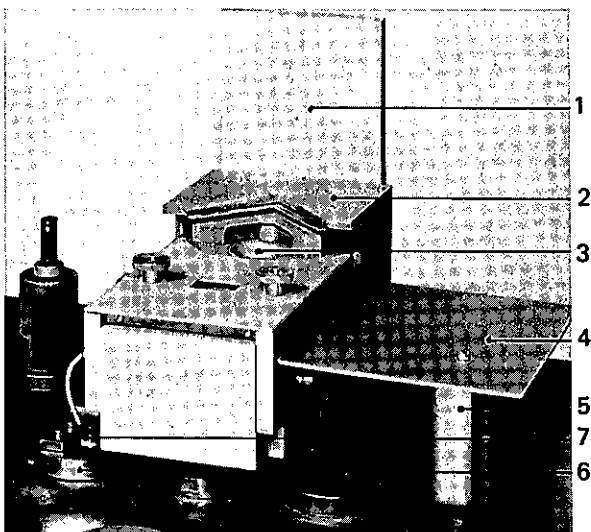

Fig. 3 Source complete with 4-way crucible
- l. Optically, the high voltage supply lines must be adequately screened from the high voltage feedthrough up to the source. The pertinent screening plate (fig. 3, item 4.), included in the source, must be cut accurately after installation to avoid frequent arcing during evaporation.
- m. If enough space is available, the deflection plate (fig. 3, item 1) may be bent backwards by 90° to crucible level. In this way, the cleaning periods can be extended considerably if larger batches of material are evaporated (pot crucible).
The high current feedthrough (fig. 3, item 6) acts as a current supply for the upper section of the anode (X-sweep). The feedthrough must therefore be electrically insulated from the coating unit base plate by means of two insulating plates, Items 118 and 119 of the spare parts list BB 800 041 E/6 and an insulating tube. If the underside of the coating unit base plate is covered with an insulating protective film (anodized or brushed on), a ground line must be connected from the gun feedthrough to the fixed angle of the high current transformer. The connection from the feedthrough to the anode is made with the installation material furnished in accordance
with the lay-out of the gun and high current feedthrough. The coil current feedthrough is mounted in the high current feedthrough (Fig. 3, Item 6).
Inner conductor to the centre tapping (secondary) of the filament current transformer T1 (screw M5); outer conductor (sheathing) to the earth screw (Fig. 3, item 3 of the operating instructions BB 800 062 BE).